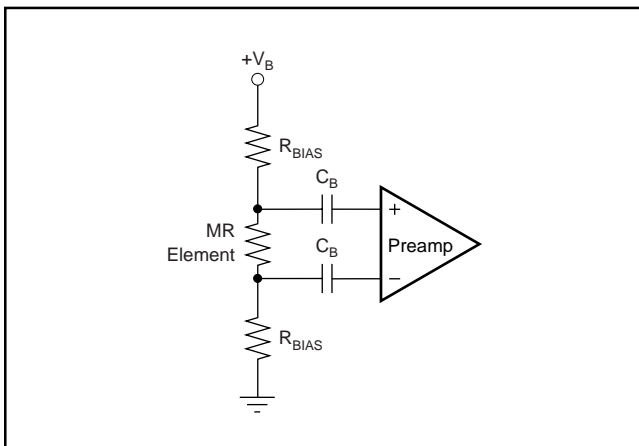

FIGURE 2. Typical MR Head Interface.
The MPA4609 is designed to detect and amplify the voltage signal from a Magneto Resistive (MR) head with minimal SNR degradation from the SNR intrinsic to the head. A typical MR head interface is shown in Figure 2. Not considering any postfiltering, the amplifier's 0.65nV/ $\sqrt{\text{Hz}}$  input noise voltage and 90MHz bandwidth combine to produce a very low 7.7 $\mu$ VRMS input referred noise floor. Even with a conservative 20dB S/N margin, input signals as low as 77 $\mu$ VPP may be detected. With a maximum differential output of 3VPP and a 190V/V gain, a maximum input of 15.7mVPP may be applied. This wide range of inputs translates into 46dB input dynamic range. Since the MR head is biased through external voltages, it is often required to connect the signal through series blocking capacitors as shown in Figure 2. The high-pass pole created by these capacitors ( $C_B$ ) and the source resistance are selected to pass the lowest frequencies required by the system.